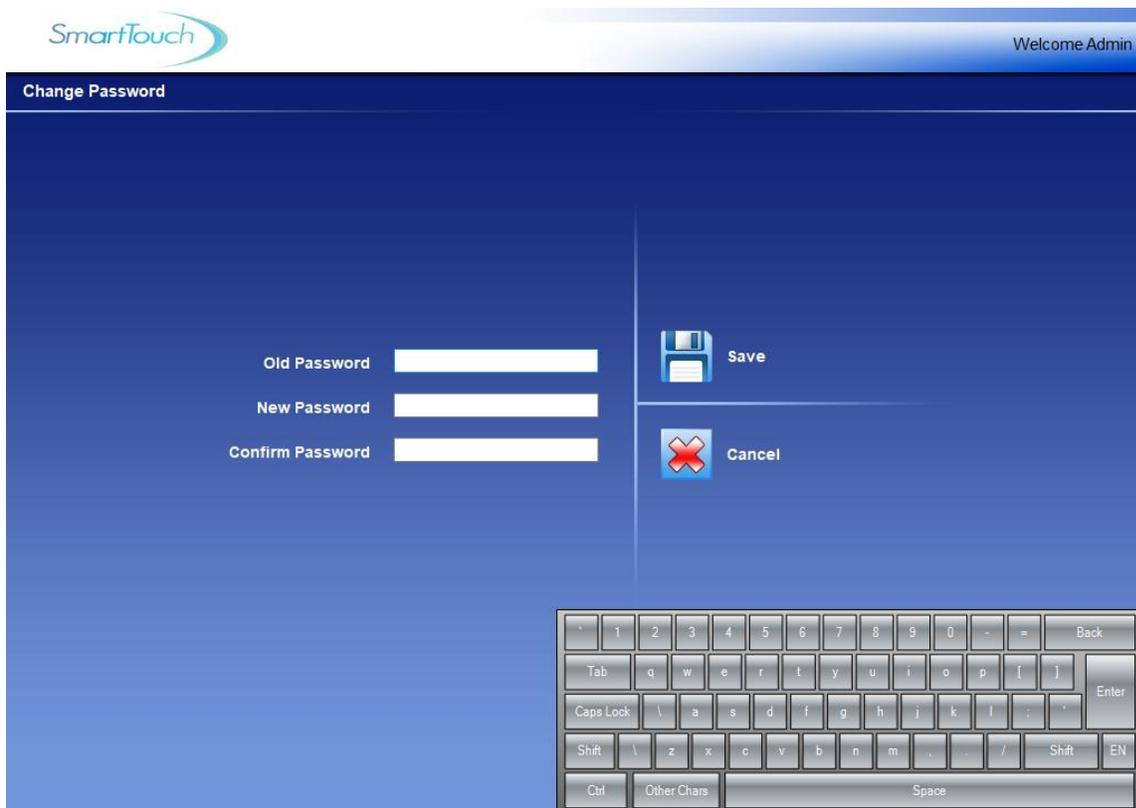

Figure 10 Change Password Screen
3. The Change Password screen will be displayed (See Figure 10). The **Old Password** field will be populated automatically by the default password, and the cursor will be in the **New Password** field.
3. The Change Password screen will be displayed (See Figure 10) with the **Old Password** field automatically populated by the default password, and the cursor will be in the **New Password** field. Type the new password in the **New Password** field, and then tap the **Tab** button once. The cursor will move to the **Confirm Password** field.